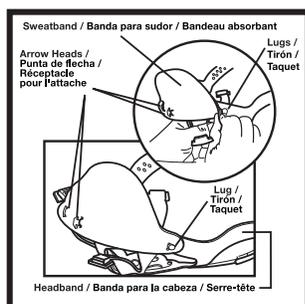

Figure 12
- Fold sweatband over crown of the headband suspension. The smooth foam (gray side) should be in contact with the users head. **(See Figure 12)**